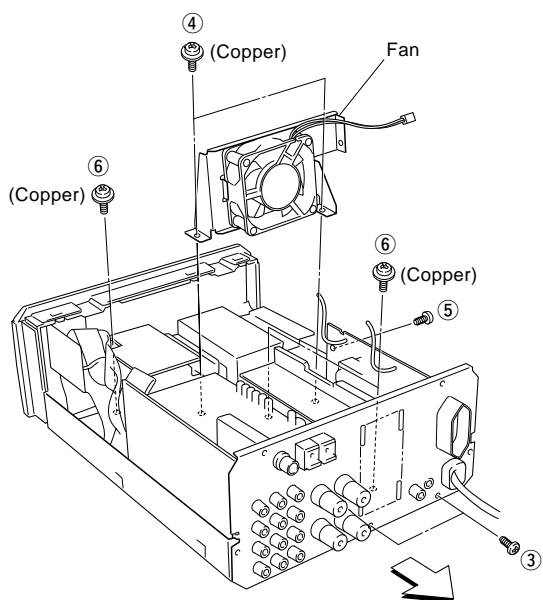

Fig. 2
b. Remove 2 screws ( ③ ) attaching the rear panel to the chassis. (Fig. 2)
d. Remove 3 screws ( ④, ⑤ ) attaching the fan to the chassis and then remove the fan. (Fig. 2)
e. Remove 3 screws ( ⑥ ) attaching the Main P.C.B. to the Heat Sink. (Fig. 2)
g. Move the Amp Unit toward the rear. (Fig. 2)